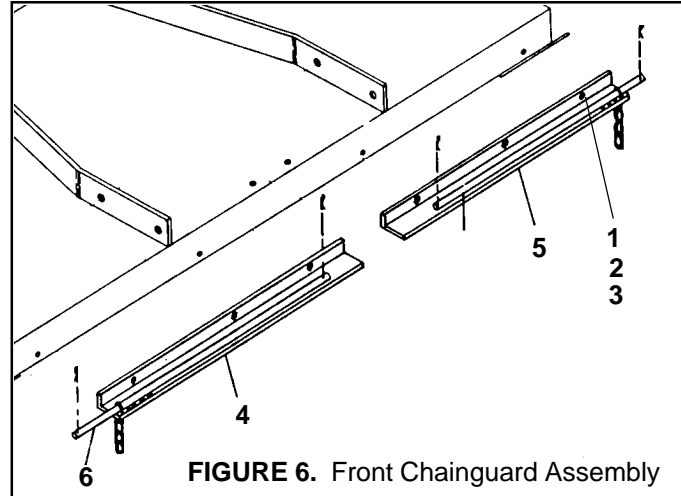

FIGURE 6. Front Chainguard Assembly
1. The SE7 mower front chainguards consist of two L shaped brackets (#4 & #5) and mounts to the front of mower deck with 3/8 round chain retaining rod (#6) on top of slotted bracket leg. Install with (#1) 7/16 x 1-1/4 capscrews, (#2) lockwashers, and (#3) nuts. **Figure 6.**